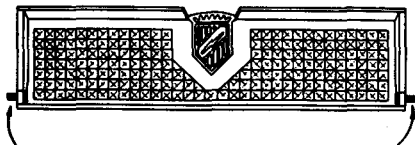

Fig. 8—Admiral
**Repairing plastic control panel doors (see Fig. 8).**